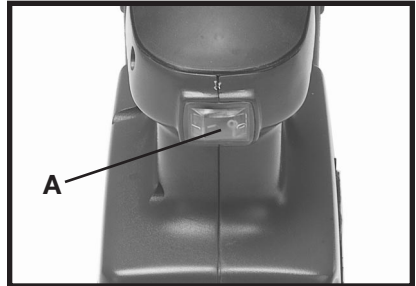

Fig.10
⚠CAUTION MAKE SURE POWER SWITCH (A) FIG. 10, IS IN THE OFF POSITION.
2. While holding sander firmly and off of work surface, slide switch (A), Fig. 10, to the “ON” position.
3. When you are finished sanding, lift sander up off work and slide switch (A), Fig. 10, to the “OFF” position to stop sander.